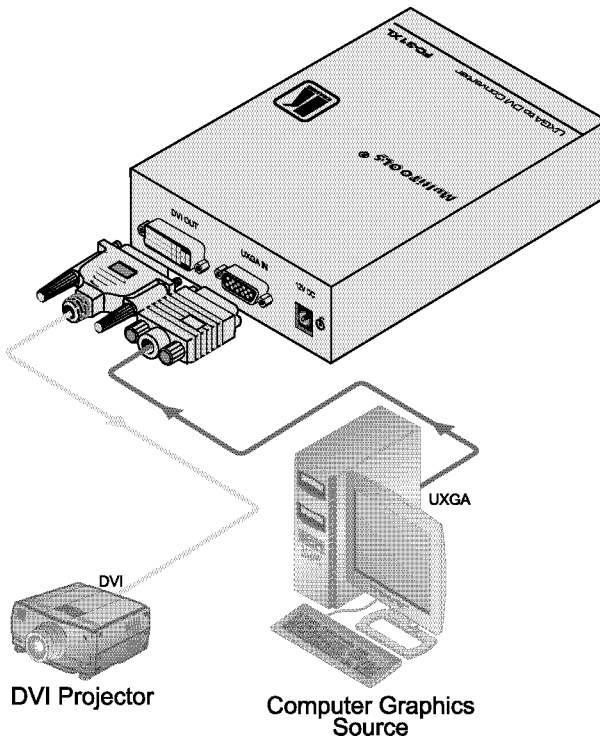

Figure 3: Connecting the FC-31xl UXGA to DVI Converter
To connect your **FC-31xl UXGA to DVI Converter**, as the example in Figure 3 illustrates, do the following¹:
3. Connect the 12V DC power adapter (wall transformer) to the 12V DC socket and connect the transformer to the mains electricity (not shown in Figure 3).